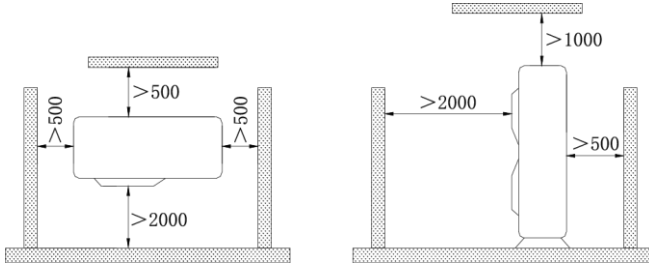

Fig.6
- 5) The installation space of the unit should be as required in Fig.6.
- 1) Refer to Fig.6 for the moments of torque for tightening screws.
- 3) After that, tighten the screw by the torque wrench unit it clatters (as shown in Fig.6).